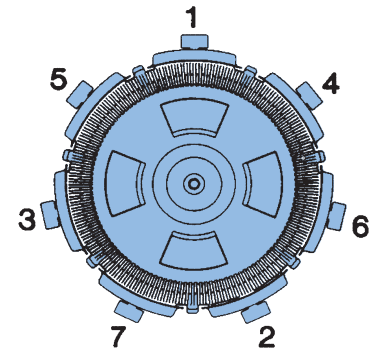

Fig. 4 S7M120
- ▶ See Figures 4 and 5 for clamp tightening sequence. Tighten all clamp knobs securely hand tight.